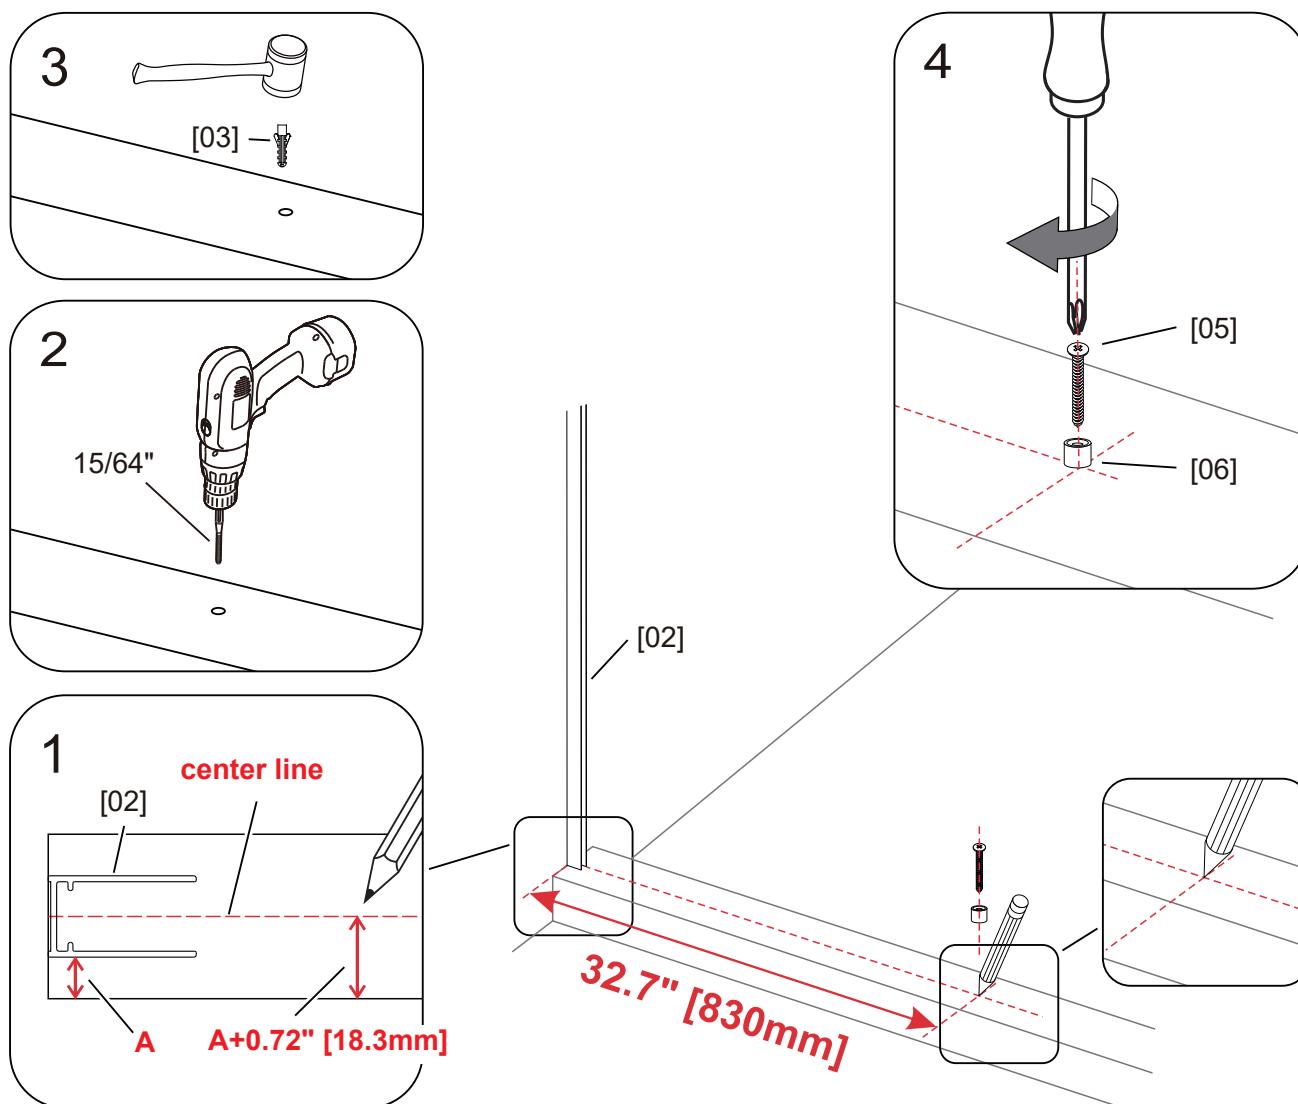

Fig 2
1. For the **Wall Jamb [02]** flush with the outer side of the **threshold**, mark the screw hole position by aligning with a **center line 0.72" [18.3mm]** from the **outside of the threshold** and a **center line 32.7" [830mm]** from the **wall**, as shown in the figure. (Refer to Fig. 2, Fig. 2.1)
2. For the **Wall Jamb [02]** positioned behind the outer side of the **threshold**, mark the screw hole position by aligning with a **center line A + 0.72" [18.3mm]** from the **outside of the threshold** and a **center line 32.7" [830mm]** from the **wall**, as shown in the figure. (Refer to Fig. 2, Fig. 2.1)
5. Position the **Pin [06]** on the threshold as shown in the figure. Ensure the flat surface of the **Pin [06]** faces the threshold. Secure it with **Screws [05]** using a **Screw Driver**. (Refer to Fig. 2, Fig. 2.4)